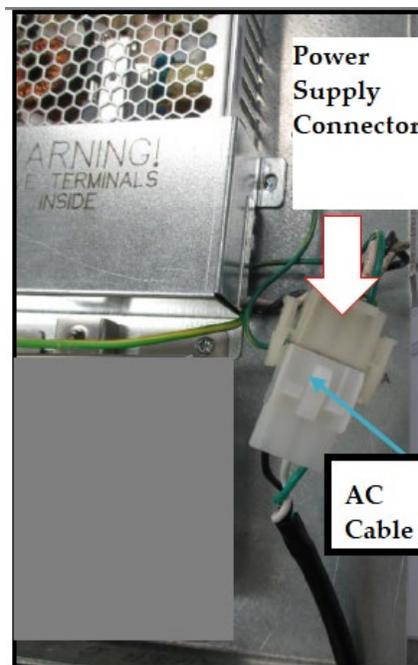

Figure 38
- 7) Disconnect the AC power cable that is attached to the power supply connector without the Invenco Link attached. See Figure 38 below.